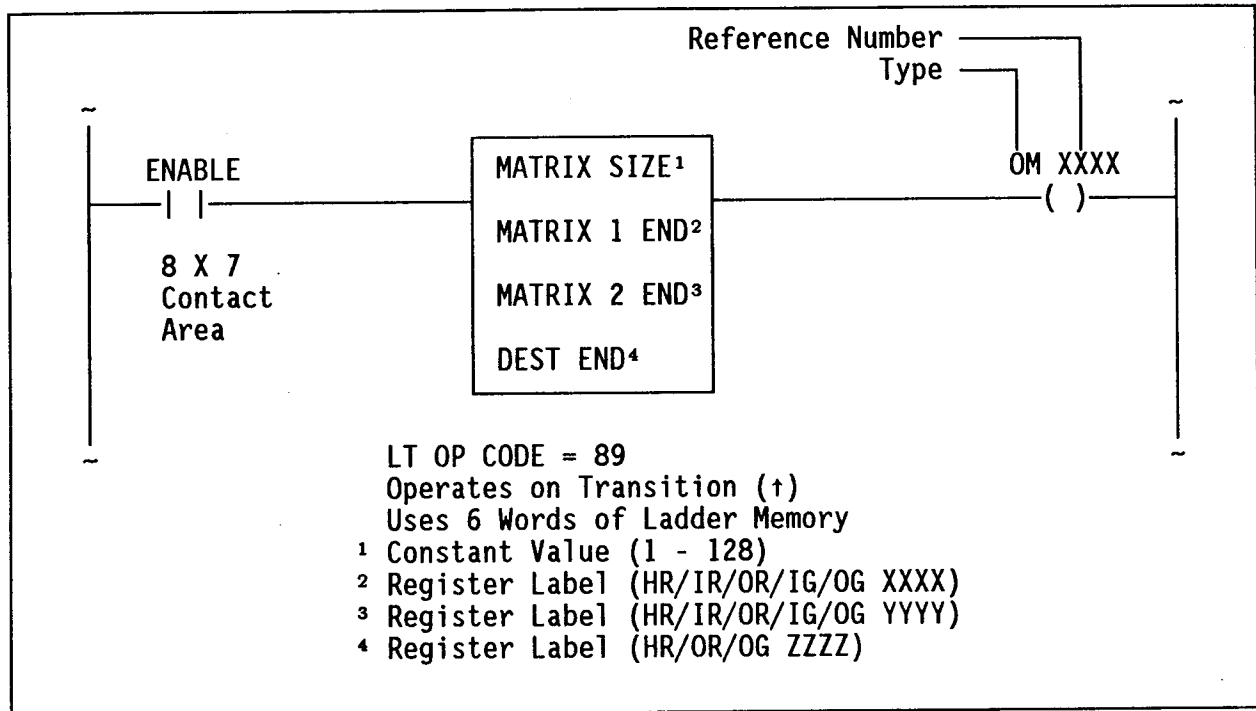

Figure 1. OR Matrix (OM)
The OR Matrix (OM) function logically OR's the contents of a pair of matrices on a bit-per-bit basis; then, it places the result in a destination matrix location. A matrix is defined as a table of up to 128 16-bit registers operated on a bit-by-bit basis. OM function symboloby is shown in Figure 1.